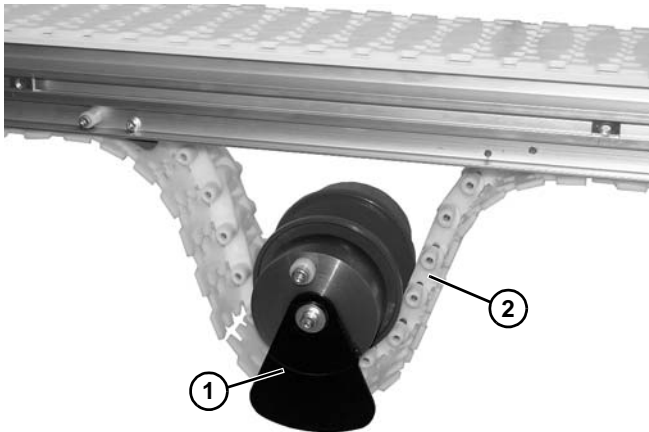

Figure 135
- Remove idler pulley assembly (Figure 135, item 1) from belt (Figure 135, item 2).